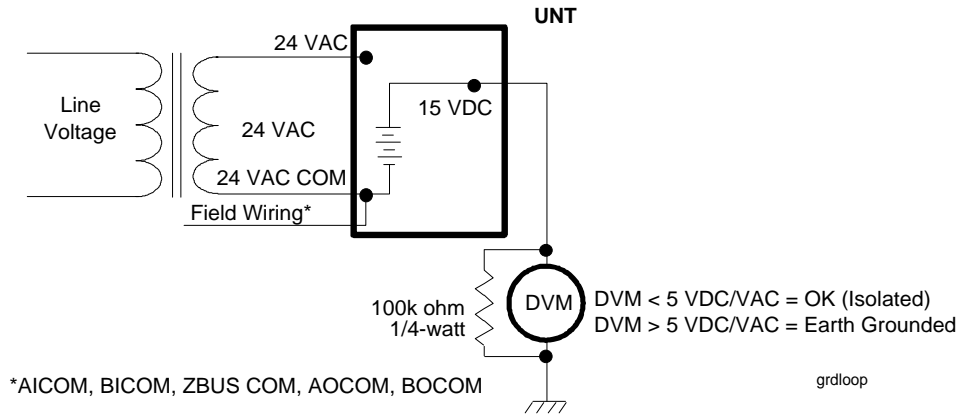

Figure 37: Testing for Ground Loops
- Connect the leads of the DVM in parallel with the 100k ohm resistor from the DC power supply (+15 VDC) output terminal of the UNT to earth ground (see Figure 37). This tests whether the field devices, the UNT, and the transformer “assembly” are properly isolated.